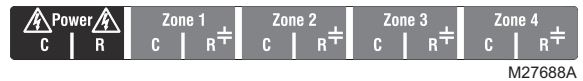
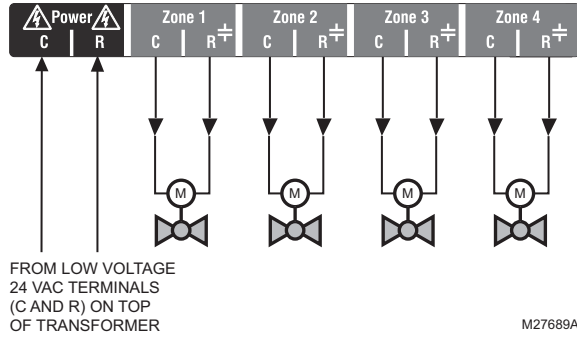

**Fig. 9. Wiring an AQ15540B Zoning Module for use with line voltage circulators.**
**Fig. 10. Low voltage output sticker.**
Refer to Fig. 9. Remove the plastic wiring barrier that is located in the bottom wiring channel between the AQ15000B Control Module and the Zoning Module. Run jumper wires from the N and L terminals on the bottom of the AQ250 Control Panel's transformer, through the wiring channel across the bottom of the Control Panel, and to the corresponding N and L terminals of the Zoning Module.
*If low voltage zone valves are used with the AQ25042B Control Panel, the supplied Low Voltage Output sticker (shown in Fig. 10) must be applied over the line voltage output sticker (see Fig. 9) that is already attached to the Zoning Module.*